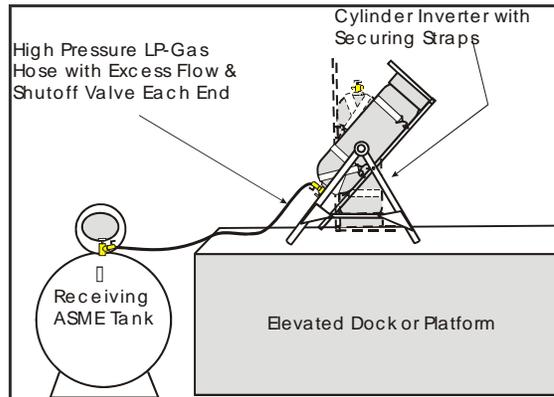

Figure 5.1.8a - Evacuation by Gravity Transfer
- Open the service valve on the container to be evacuated and the fill valve on the receiving container to allow the liquid to drain into the receiving container (see Figure 5.1.8a).